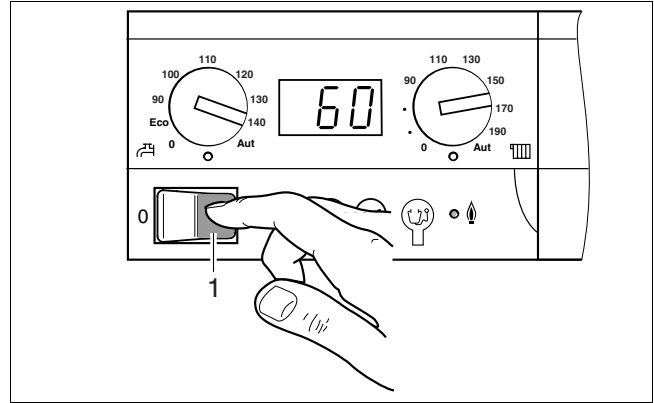

fig. 18
- Wait five (5) minutes to clear out any gas. Then smell for gas, including near the floor. If you smell gas, STOP! Follow "B" in the safety information on page 13. If you do not smell gas, go to the next step.
- Switch on the heating system using the main switch (fig. 18).